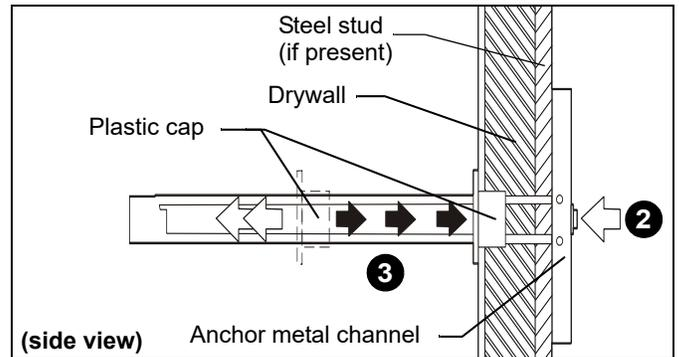

Figure 21
2. Holding plastic straps on anchor, pull anchor away from wall until channel rests flush behind wall making sure anchor channel is positioned vertically on drywall, or steel stud (if present). (See Figure 21)
3. Slide plastic cap on anchor towards wall until flange of cap is flush with wall. (See Figure 21)